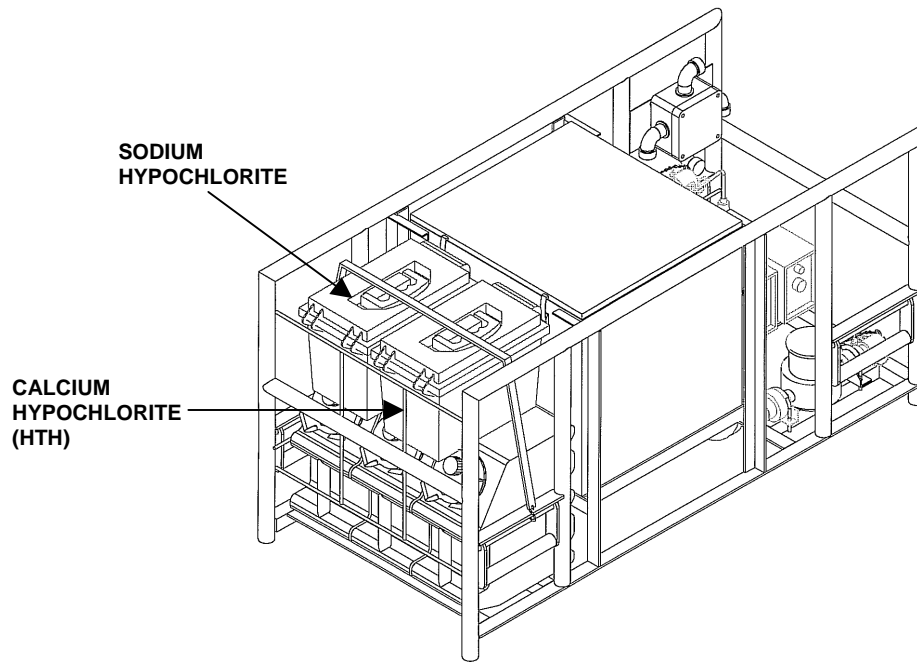

Figure 12. Chemical Module with Operational Chemical Boxes.
24. Remove the chemical boxes from the storage area on the chemical module. Place them inside empty cable box for operational storage. See Figure 12. See WP 0010 00 for description of other chemicals stored inside the cable box.